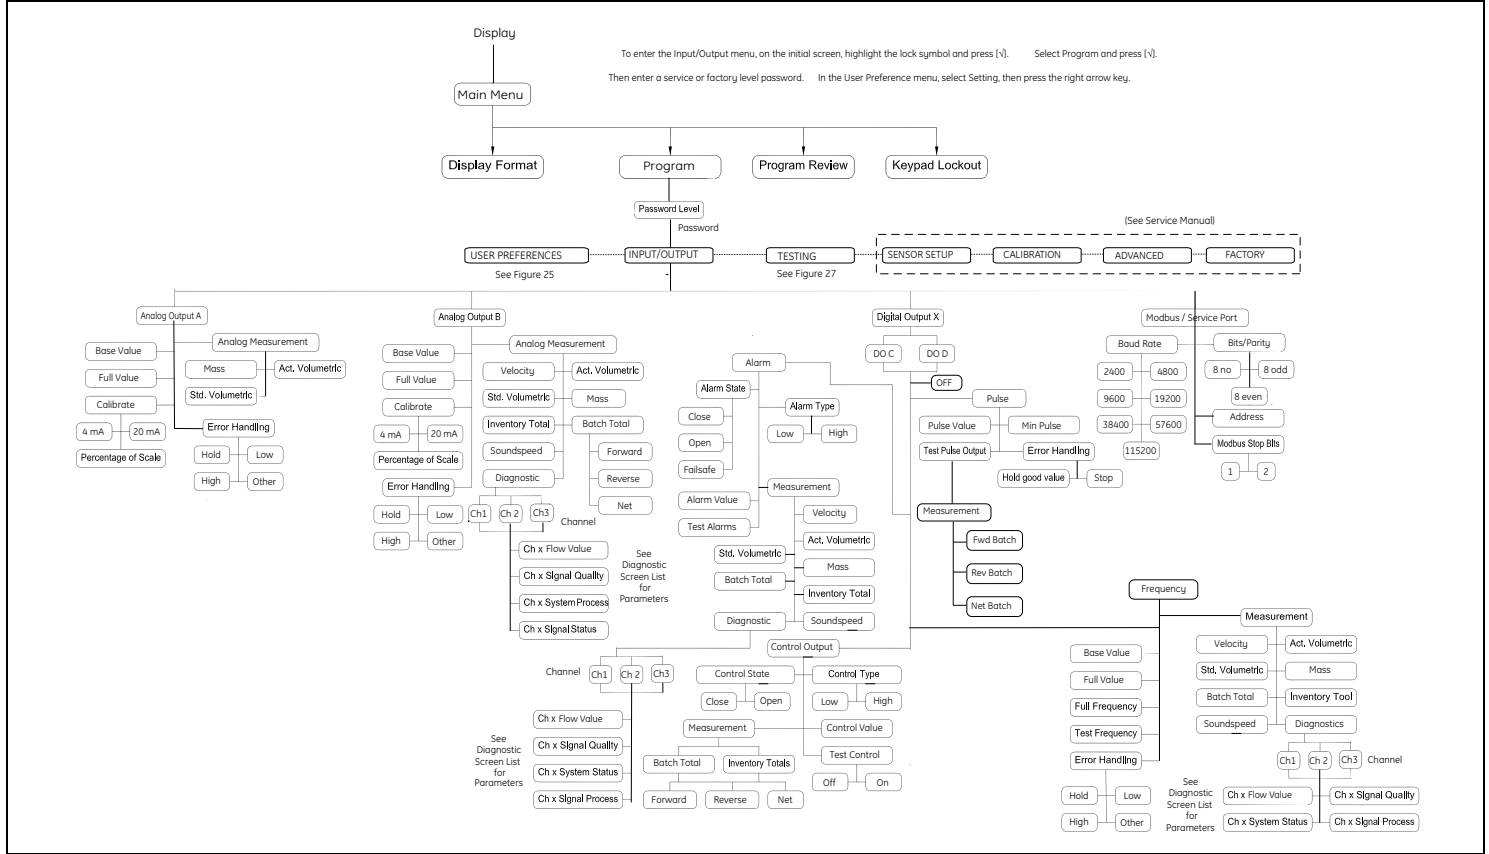

Figure 26: Input / Output Menu Map
- Figure 26, “Input / Output Menu Map,” on page 84